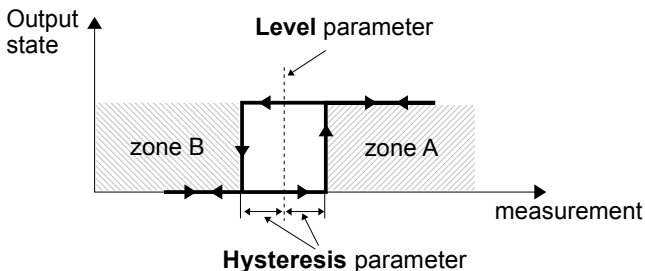
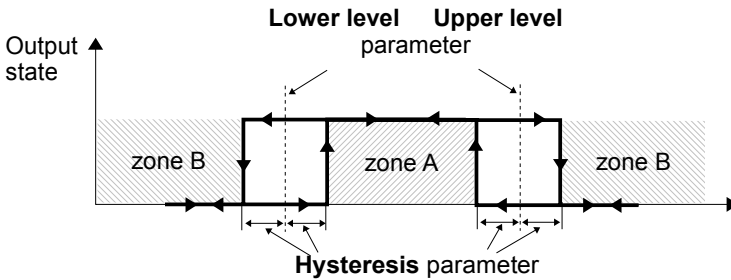
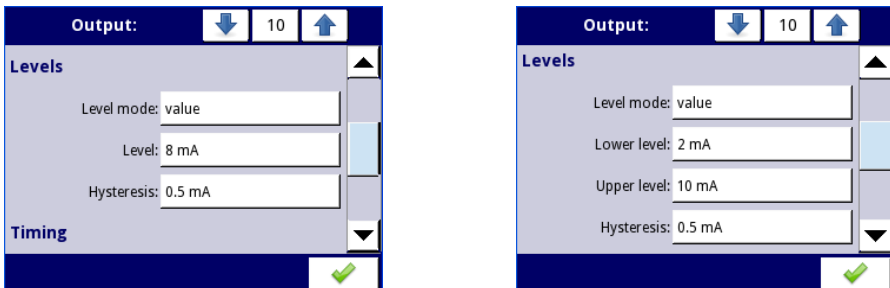

Fig. 7.80. One threshold control of the relay outputs
Fig. 7.81. Two threshold control of the relay outputs
Fig. 7.82. Levels settings for **Mode: above and below level** (left) and **inside range and outside range** (right)
- **Mode** - this parameter allows the user to select the method of operation of the output, **Mode** parameter has options (see **Fig. 7.80** and **Fig. 7.81**):
Levels parameter block (see **Fig. 7.80**, **Fig. 7.81** and **Fig. 7.82**)
- **Hysteresis** - defining this parameter, the user can move the level for changes in output state (see **Fig. 7.80** and **Fig. 7.81**),